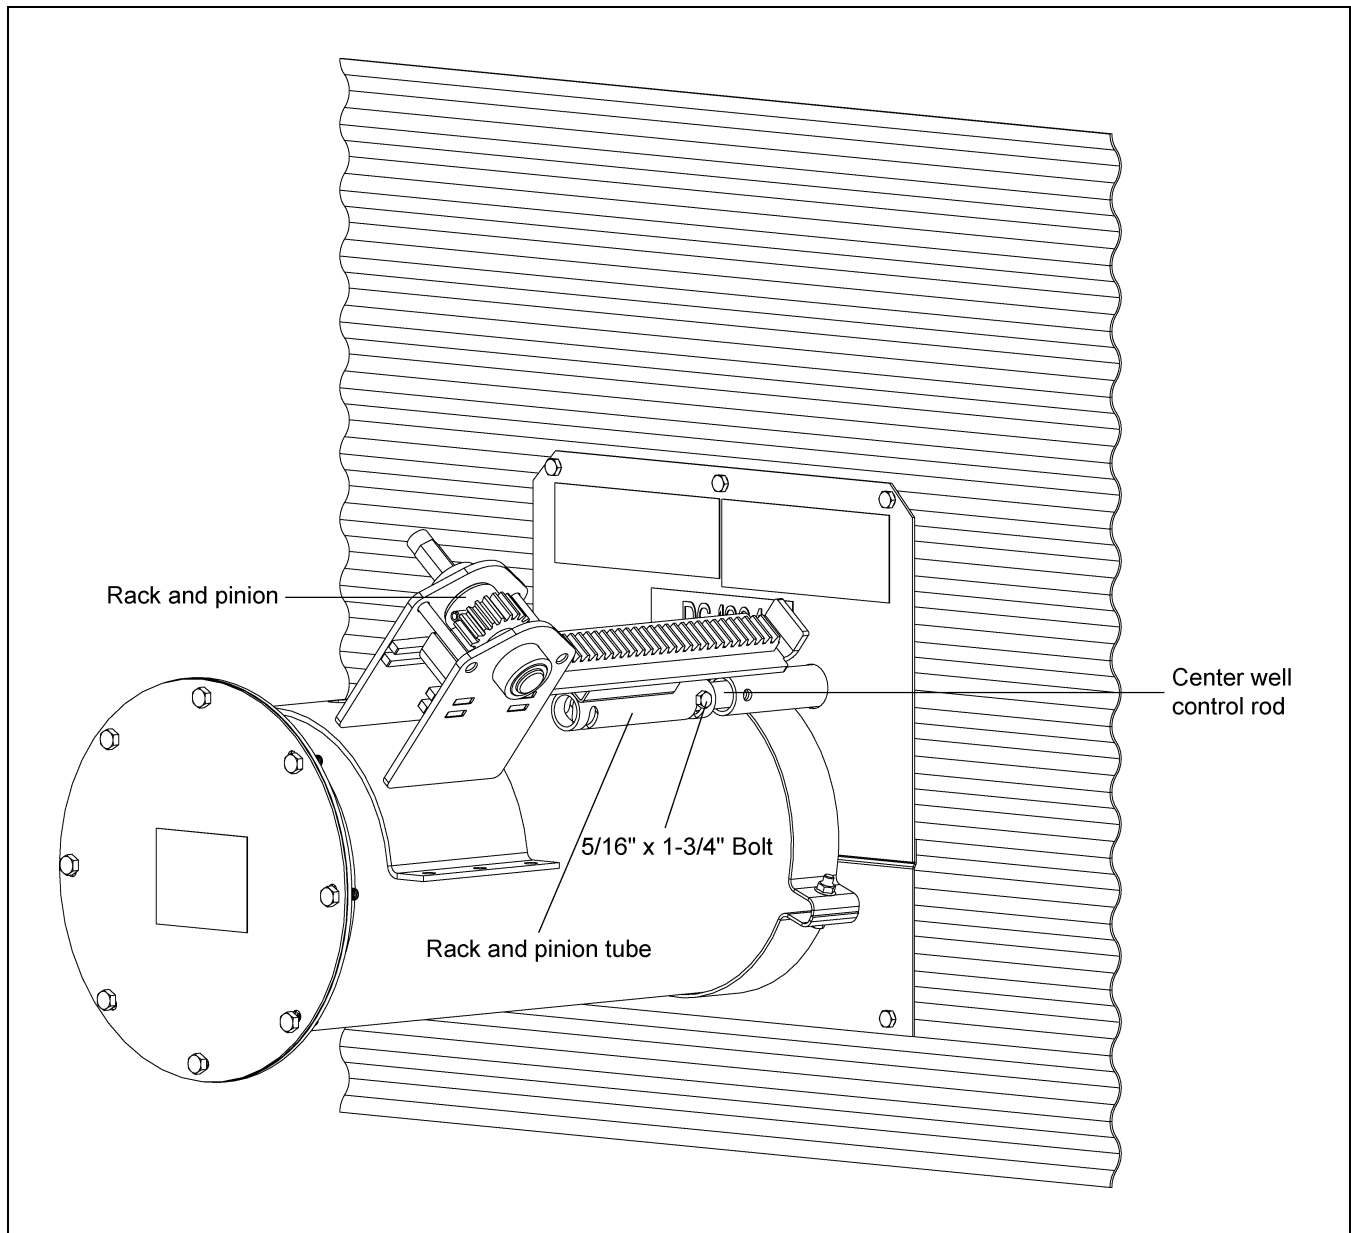

Figure 4N 8" and 10" Systems
2. Slip rack and pinion tube over center gate control rod and align holes, making sure rack and pinion is fully extended toward bin wall. *(See Figure 4N.)*
3. With rack and pinion resting on unload tube and tube holes aligned, insert one 5/16" x 1-3/4" bolt through the rack and pinion tube and center gate control rod. Fasten together with a nut. *(See Figure 4N.)*